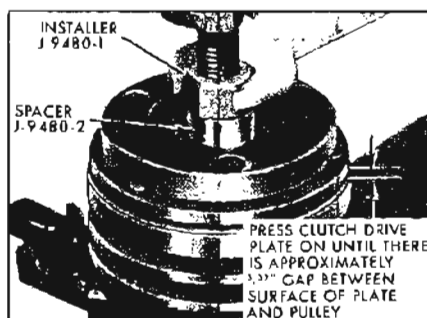

Figure 11-102—Installing Clutch Drive Plate
3. Place Spacer J-9480-2 on Clutch Drive Plate Installer J-9480-1 and thread installer on end of compressor shaft. See Figure 11-102. Press the clutch drive plate on shaft until there is approximately  $3/32''$  space between the friction faces of the drive plate and pulley as shown in Figure 11-102.